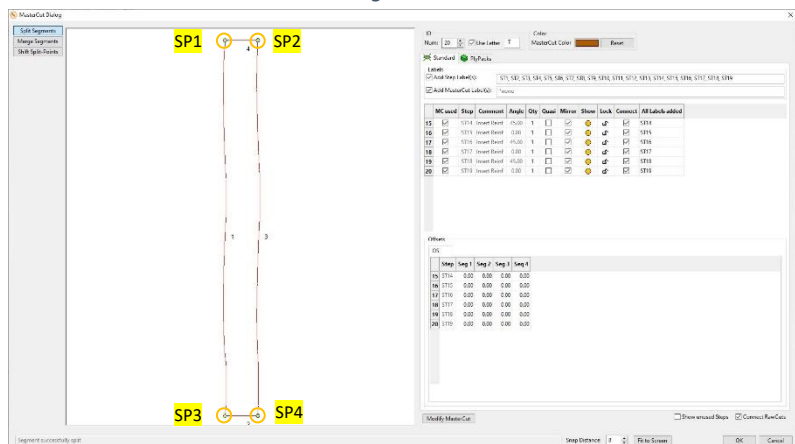

Figure 295
91. ... and for MasterCut T and split the outer geometry as shown in Figure 295...